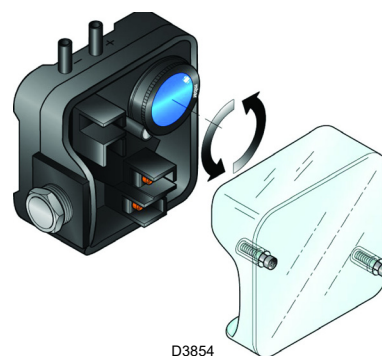

Fig. 30
- Adjust the air pressure switch (Fig. 30 on page 28) to the start of the scale.
Adjust the air pressure switch after performing all other burner adjustments with the air pressure switch set to the start of the scale (Fig. 30).